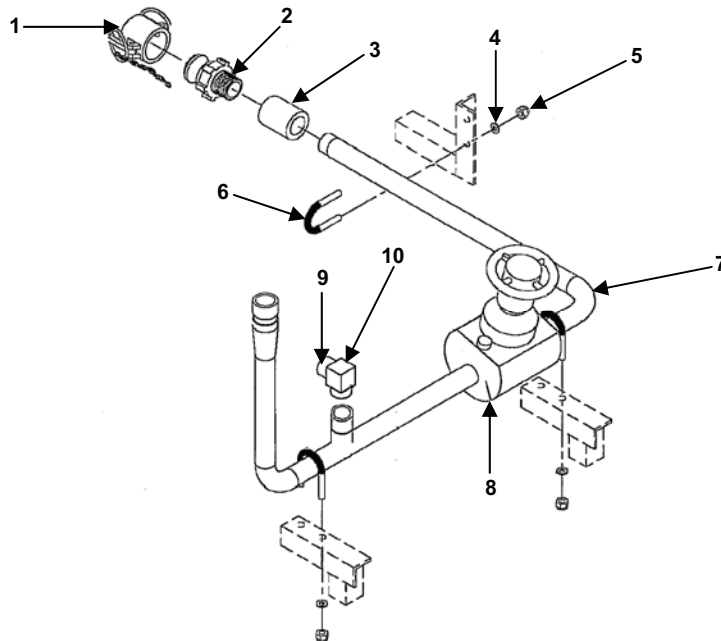

Figure 3. Reject Piping Assembly.
1. Remove the victaulic clamp from the tail end of vessel number (Figure 3, item 7).
2. Loosen tubing nut (Figure 3, item 9) from elbow (Figure 3, item 10).
3. Remove the nuts (Figure 3, item 5), washers (Figure 3, item 4) and U-bolts (Figure 3, item 6). Remove the piping from the module.
4. Remove adapter (Figure 3, item 3), male camlock (Figure 3, item 2) and dust cap (Figure 3, item 1) if necessary.
5. Disassemble RO reject valve (Figure 3, item 8) if necessary. See (WP 0131).
1. Refer to Figure 3 for this procedure section.
2. Reassemble RO reject valve (Figure 3, item 8) if necessary. See (WP 0131).
3. Install adapter (Figure 3, item 3), male camlock (Figure 3, item 2) and dust cap (Figure 3, item 1) if necessary.
4. Install the U-bolts (Figure 3, item 6) and secure with nuts (Figure 3, item 5) and washers (Figure 3, item 4). Place the piping on the module.
5. Install tubing on the elbow (Figure 3, item 9).
6. Install the victaulic clamp to attach the reject piping to the tail end of vessel number (Figure 3, item 7).